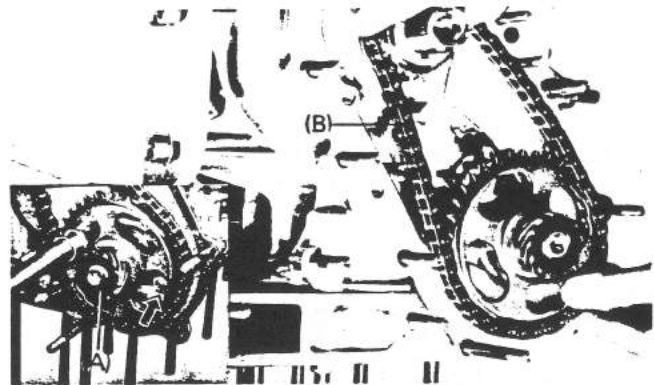

Fig. 54
- Undo two nuts securing the camshaft (A)
- Remove the camshaft & camsprocket wheel and the timing sprocket wheel together with the timing chain (B) from the crankshaft and the cylinder block as shown in Fig. 54.